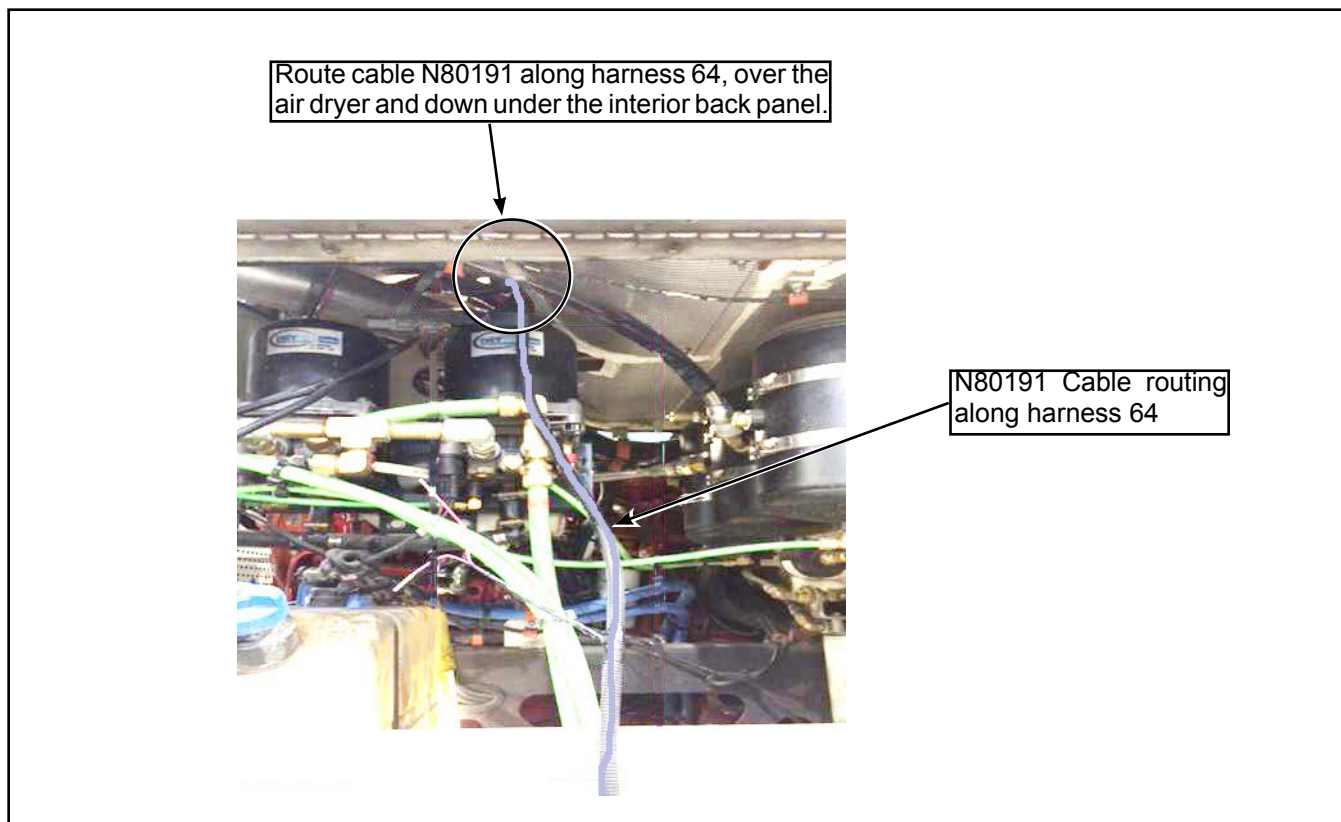

Figure 7 - N80191 Cable Routing Along Harness 64
- 1.8. Route cable N80191 along harness 64, over the air dryer and down under the interior back panel (see Figure 7).